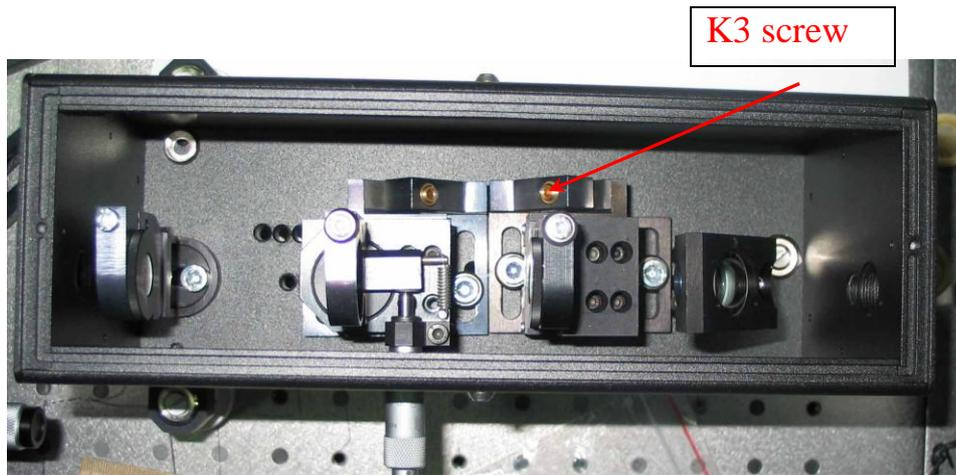

Fig.5.
- 14) Follow this step if you have a large divergence of the SH or the FH beams. *Adjust the screw of the L2 table (screw K3)(Fig.5) to collimate the output FH beam. Direct FH beam onto the white sheet of paper.*